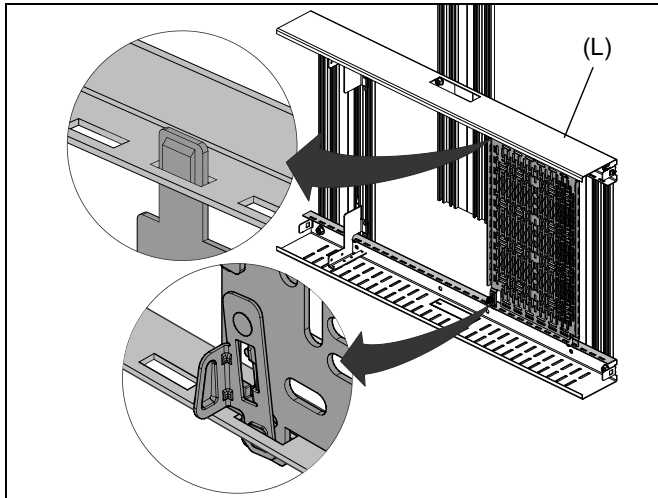

Figure 16
- Pivot panel in and slide it down toward the slots on lower side of the rear frame panel opening. The panel will snap into the slots, securing it to the rear frame. (See Figure 16)
- To remove the panel, squeeze the spring-loaded latch on lower end tabs of the storage panel (L) and slide the panel up and out of the slots on the rear frame.